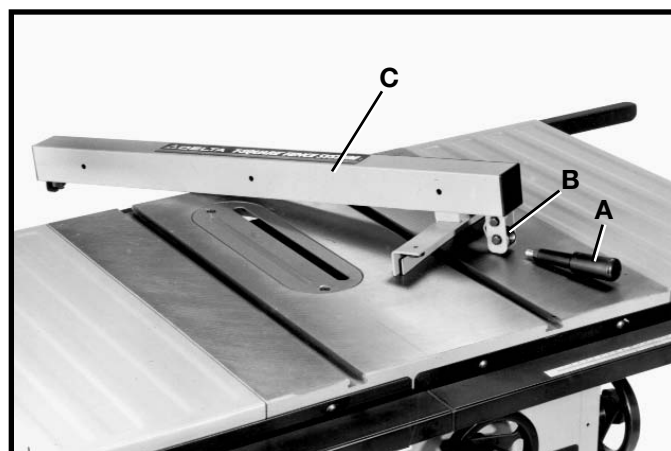

Fig. 20
1. Insert handle (A) Fig. 20 into threaded hole (B) in rip fence (C).